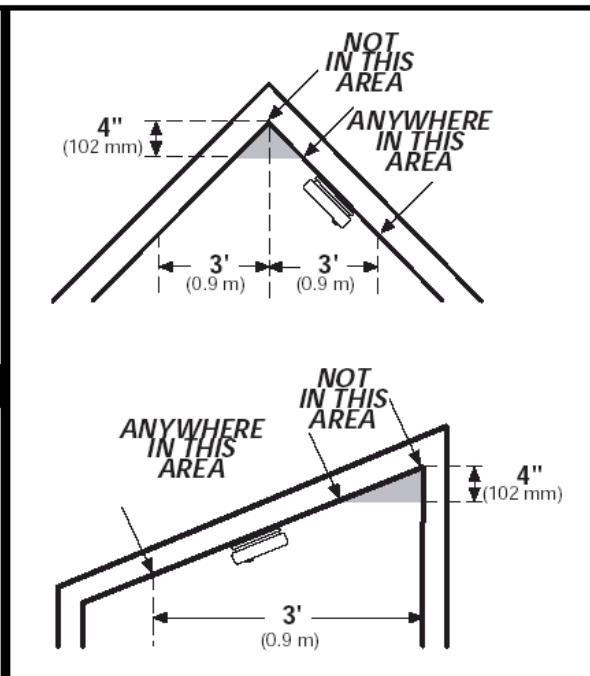

FIGURE 3
- Install smoke alarms on sloped, peaked or cathedral ceilings at or within 3ft (0.9m) of the highest point (measured horizontally). NFPA 72 states: "Smoke alarms in rooms with ceiling slopes greater than 1 foot in 8 feet (.3m in 2.4 m) horizontally shall be located on the high side of the room." NFPA 72 states: "A row of detectors shall be spaced and located within 3 ft (0.9m) of the peak of the ceiling measured horizontally" (see Figure 3).